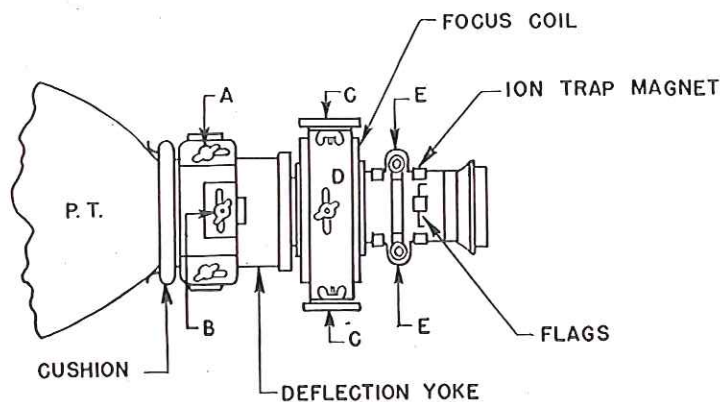

Fig. 2
Loosen the two thumbscrews (A) and slide the picture tube cushion toward the rear of the cabinet. (See Fig. 2).
Figure 2 shows a sketch of the neck of the picture tube, the deflection yoke, the focus coil, and ion trap magnet as seen when looking down on the receiver chassis.
To correct, adjust the focus coil on top of the chassis (Fig. 2) until the corners of the picture are clear. It may then be necessary to readjust the centering controls in the back of the receiver. It may also be necessary to readjust the focus control to provide the clearest picture.
To correct, rotate the deflection yoke. (Fig. 2).